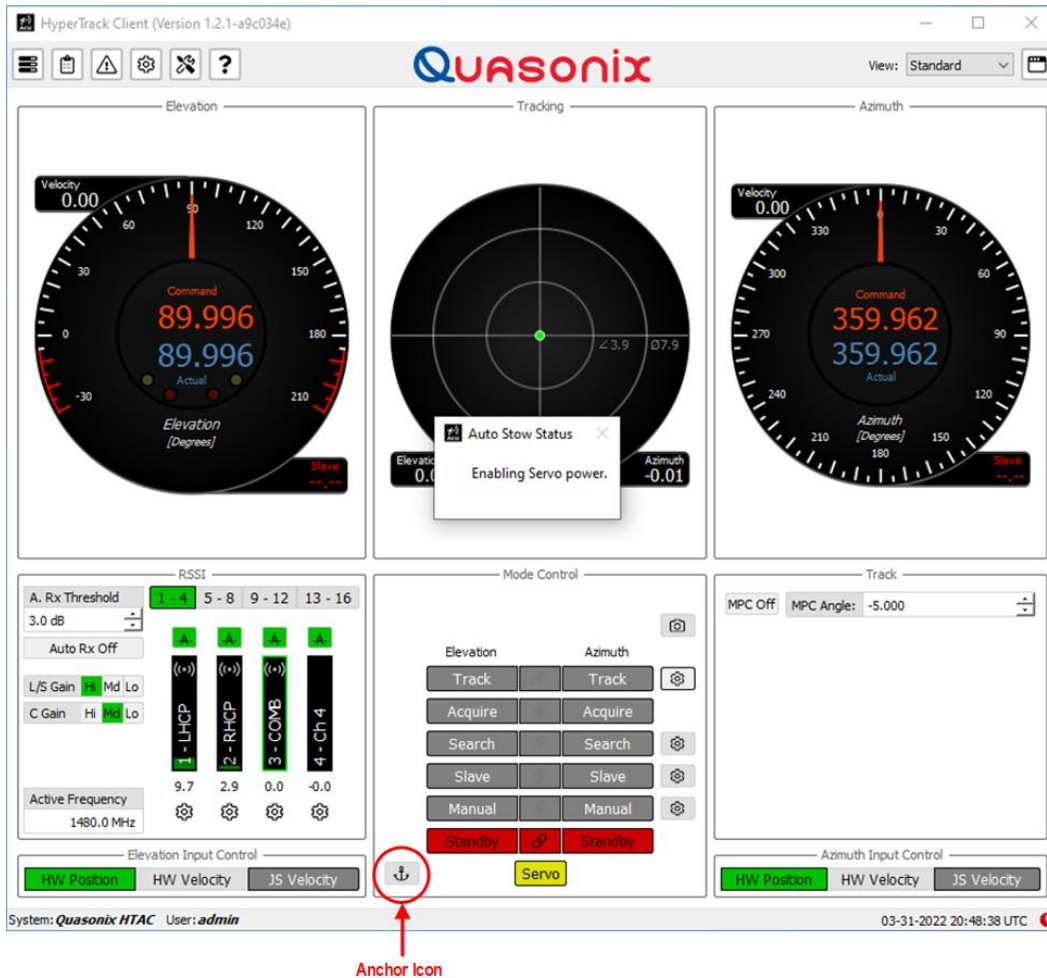

Figure 124: Auto Stow Status Message, Enabling Servo Power
- The Main Screen (GUI), now includes a small Anchor icon located in the lower left hand corner of the Mode Control Area, as shown in Figure 124. Selecting the Anchor icon enables the Auto Stow system.